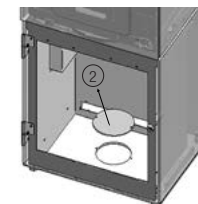

Fig. 3b
2. Remove the sealing cover (Fig. 3b).